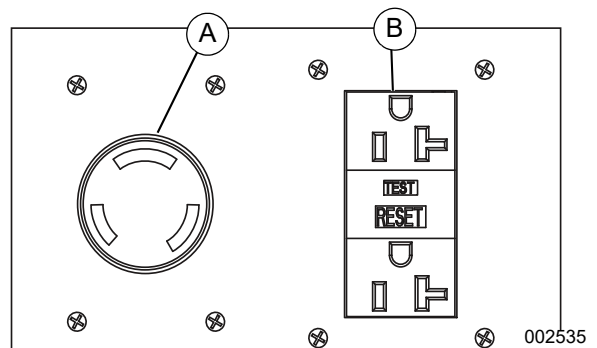

Figure 3-14. Convenience Receptacles
See **Figure 3-14**. The unit is equipped with convenience receptacles for powering accessories or tools from the generator. Power is supplied to the receptacles any time the engine is running and the main circuit breaker is switched to the ON (I) position. Each receptacle has an individual circuit breaker, located on the control box. Refer to **Control Panel**.